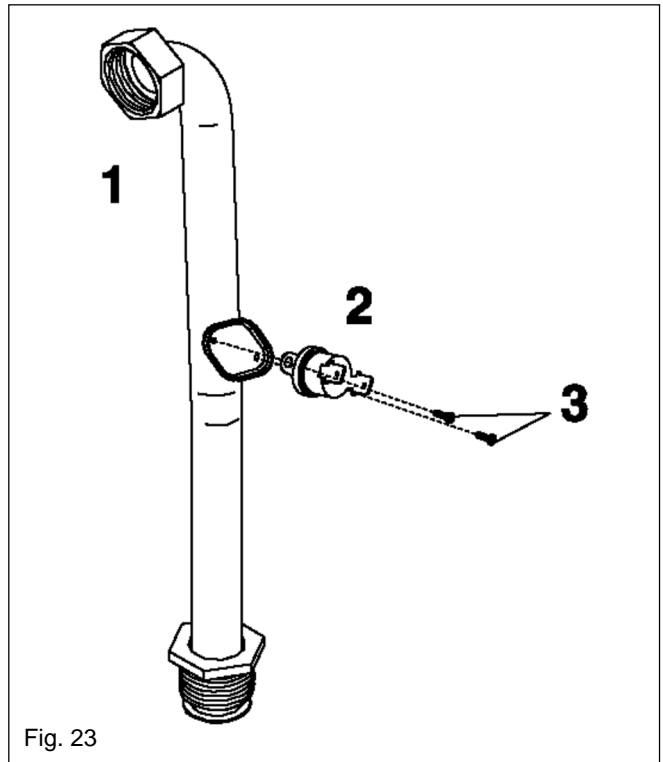

Fig. 23
**6.11 HIGH LIMIT THERMOSTAT (see fig. 23)**